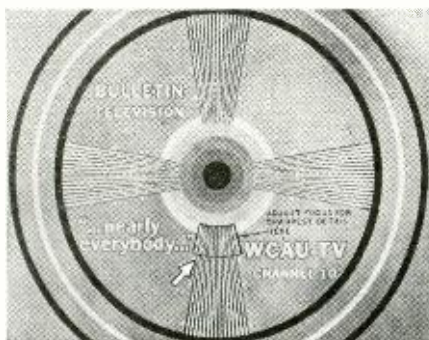

Fig. 5—Check receiver resolution by length of individual lines in wedge.
A. It's quite obvious your trouble is in the vertical circuit, somewhere between 6J5 vertical oscillator discharge stage, through vertical output 6K6-GT to vertical deflection yoke. This includes only the two tubes mentioned, two transformers, one yoke, and miscellaneous capacitors and resistors (Fig. 5). Try the following:
To check detail clarity (also called *resolution*), tune in a station and adjust the FOCUS control (if on the front panel) for best sharpness near the center of the screen. If there is a test pattern on, look at the black and white lines that make up the vertical wedges. You should be able to see the lines distinctly as they come closer together, down to within a small fraction of an inch of the end of each wedge. The critical area is outlined in Fig. 5. Notice also the corresponding areas on the horizontal wedges.